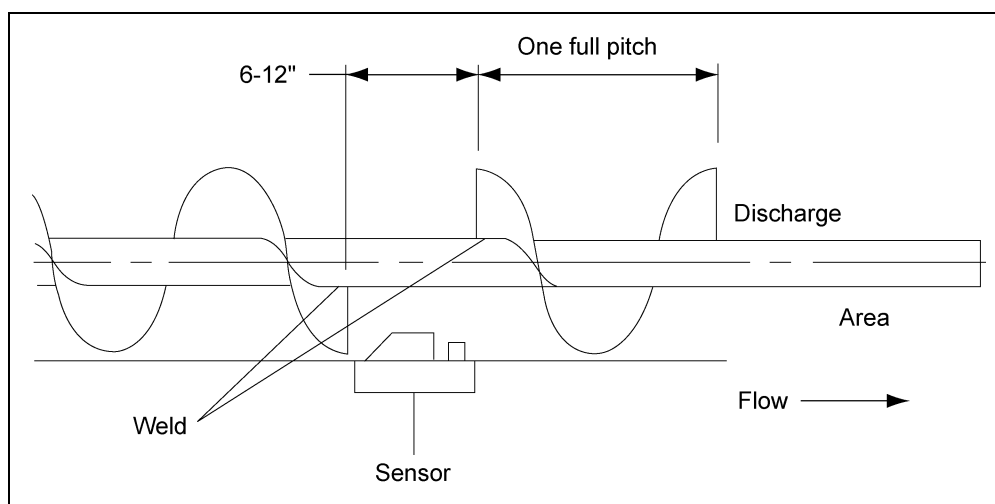

Figure 4E
1. Determine where the sensor can be located. (See Figure 4D.) There must be at least one full pitch of flight before and after the sensor. (See Figure 4E on Page 14.)
**NOTE:** For 7" flight or less, cut the flight to the shaft. Weld the auger flight to the shaft at each end of the 6-1/2" cut out marks, then cut out the 6-1/2" of flighting from the auger, leaving only the drive tube. For 8" or larger diameter flighting, 1/2" of flighting can be left as a ribbon around the shaft in the cut out area. (See Figure 4E.)